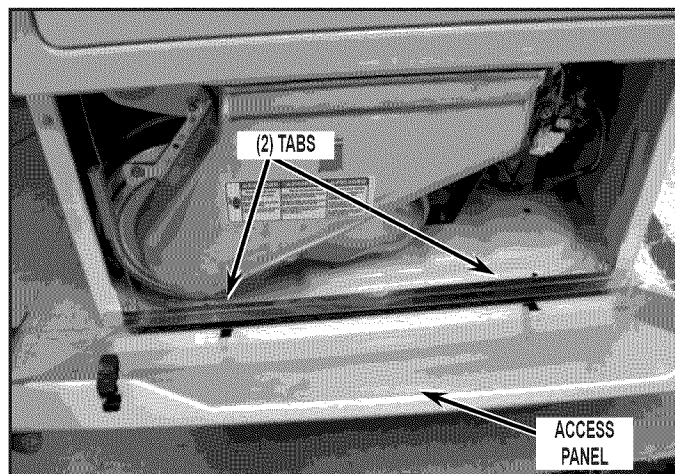

FIGURE 25
- Slip two (2) lower tabs (See *Figure 25*) through front lower access panel slots, tip the panel up and press into place to latch both retaining clips.